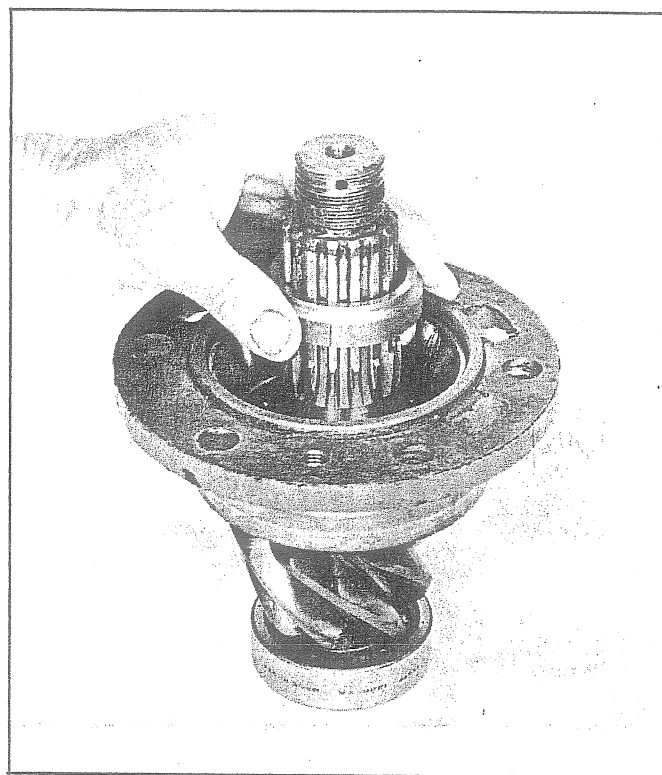

Fig. 57 - Installing Bearing Spacer
4. A pinion bearing spacer and shim kit is provided for service repair. This kit consists of a spacer and a quantity of shims. Position one .010 in. shim and bearing spacer on shaft as shown in Fig. 57.